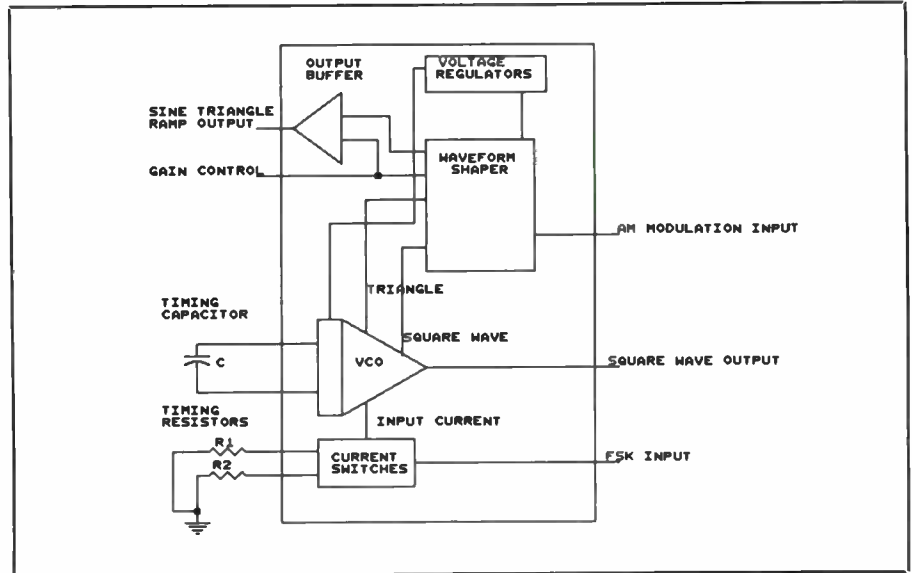
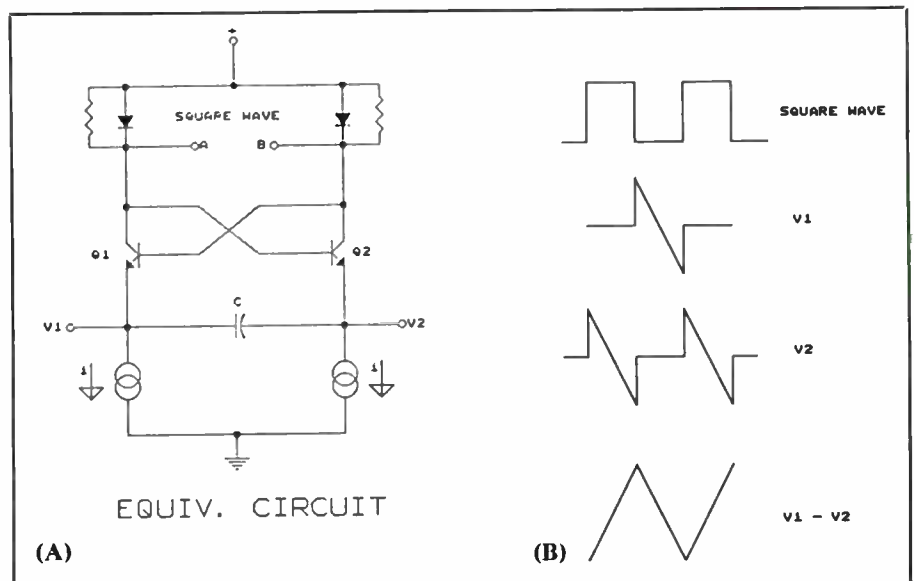

Fig. 2. Internal details of XR-2206 function generator chip.
Fig. 3. Simplified diagram (A) of the basic multivibrator used in XR-2206's voltage-controlled oscillator and waveforms (B) at emitters of the transistors.
The XR-2206 chip consists of five basic circuits, as shown in Fig. 2. These include:
- **A Voltage-Controlled Oscillator (vco).** This basic emitter-coupled multivibrator produces square-wave and triangle outputs. A simplified schematic diagram of this circuit is shown in Fig. 3(A). Capacitor *C* is alternately charged and discharged through *Q1* and *Q2*. The frequency is determined by current *i*. The output waveform between the transistor collectors is a square wave. The waveform at the emitters is as shown in Fig. 3(B). Note that the triangle waveform is formed by simply subtracting *V2* from *V1*. The value of *i* is determined by external timing resistors *R1* and *R2* in Fig. 2.
- **Vco Current Switches.** As shown in Fig. 2, you can select, via the level at the FSK (frequency-shift keying) in-